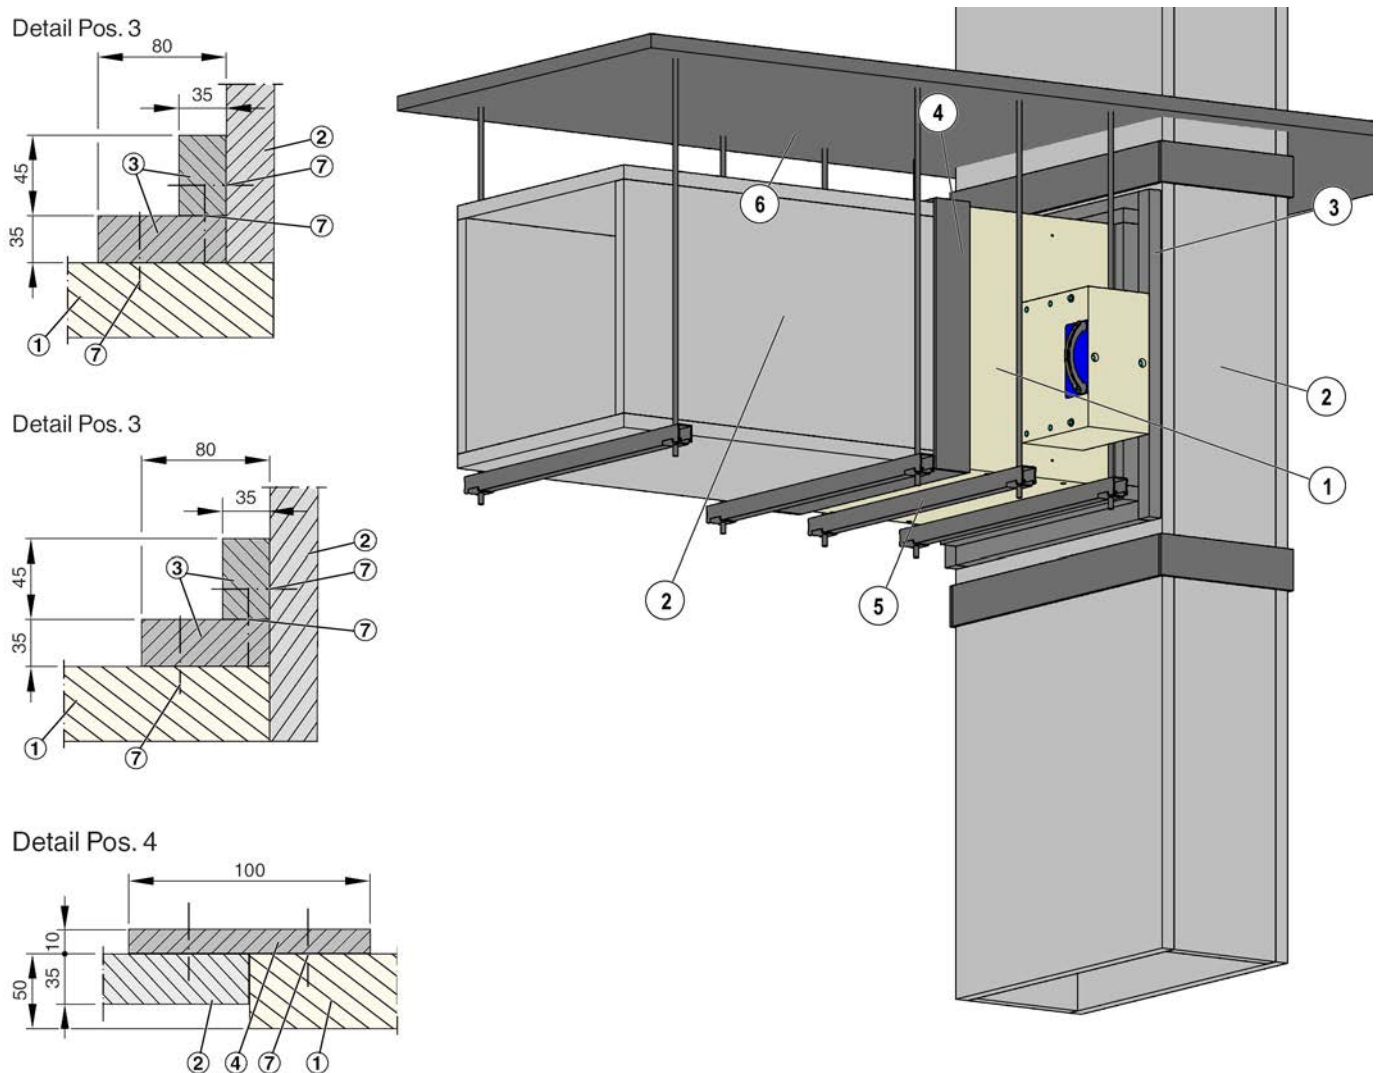

Fig. 19: Installation leading from vertical fire-resistant smoke extract ducts, classification index: v_{ed}
- 2. ▶ Connect the fire-resistant smoke extract duct to the smoke control damper by placing an angle section (Fig. 19 /3) between the duct and the damper. Apply glue to the angle sections at the joints, at the smoke extract duct and the smoke control damper, then link the sections with steel staples, distance $\leq 150 \text{ mm}$.